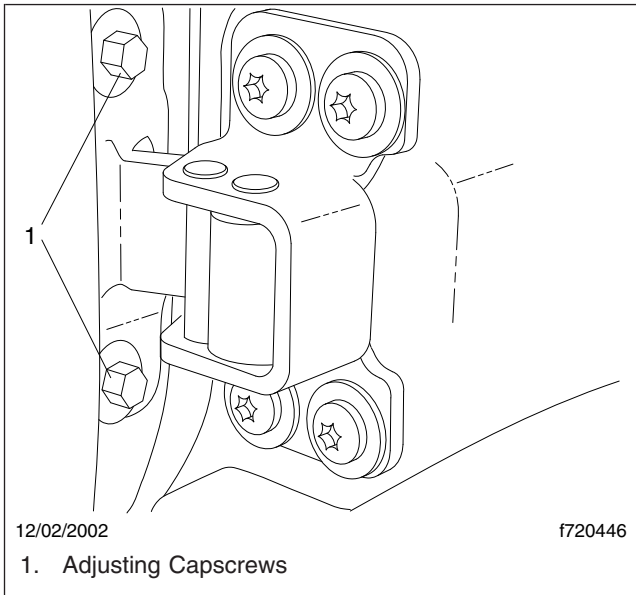

Fig. 2, In-and-Out Adjusting Capscrews on the Door
4. Loosen the capscrews that attach the hinges to the door frame, but keep them tight enough to prevent unintentional hinge movement. See Fig. 2.